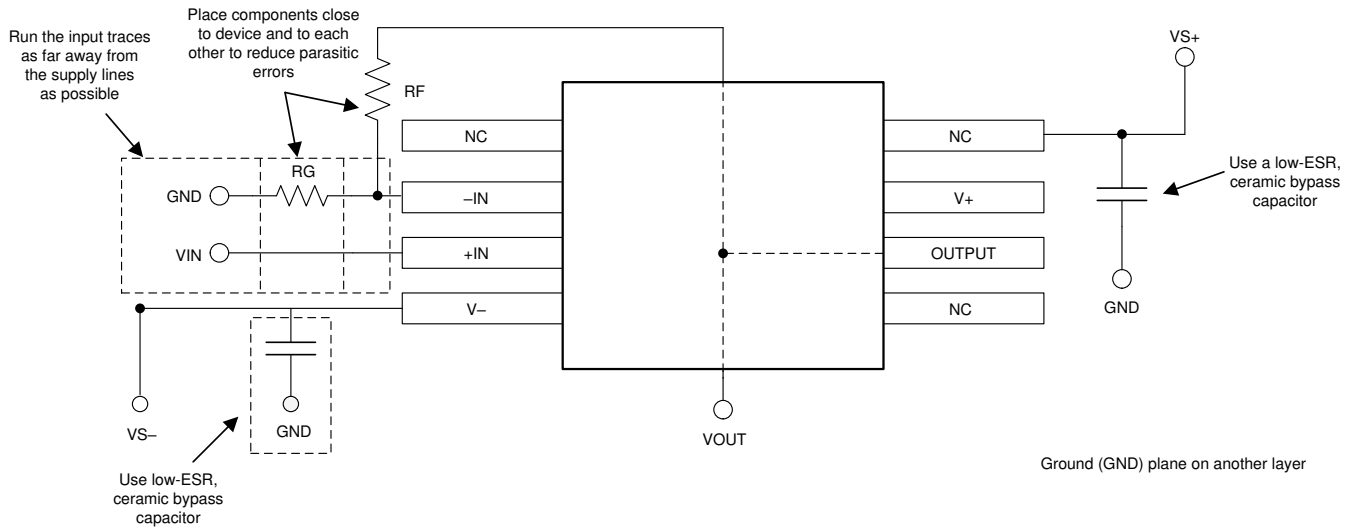

图 10-2. Operational Amplifier Board Layout for Noninverting Configuration
- Place the external components as close to the device as possible. As illustrated in 图 10-2, keeping RF and RG close to the inverting input minimizes parasitic capacitance.